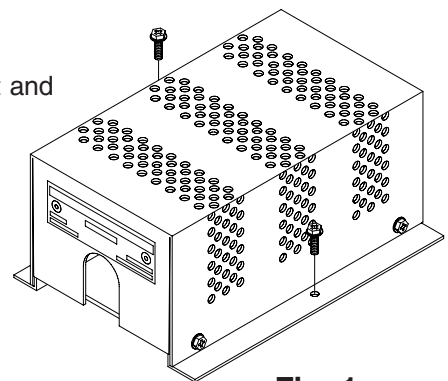

Fig. 1
Mount the siren with the (2) supplied #8 screws into a secured portion of sheet metal. See Fig. 1.